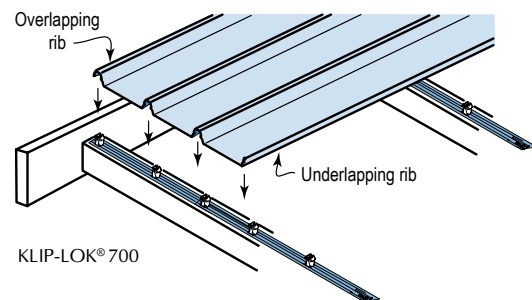

Figure 5
7. Place the glass wool insulation between the purlin (Refer figure 5).
9. Position the first sheet so that the overhangs are of the desired amount (usually 50 mm) to the gutter. It is important to ensure this first sheet is placed squarely to adjacent edges (Refer figure 5).